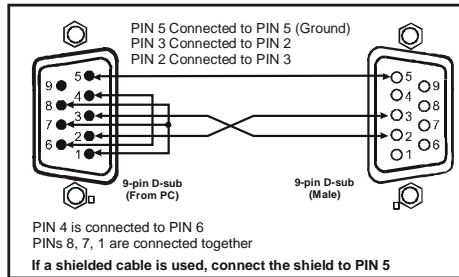

Figure 5: Connecting a PC without using a Null-modem Adapter
- Connect the RS-232 9-pin D-sub port on your PC to the RS-232 9-pin D-sub rear panel port on the **VS-44HDxl** unit, as Figure 5 illustrates